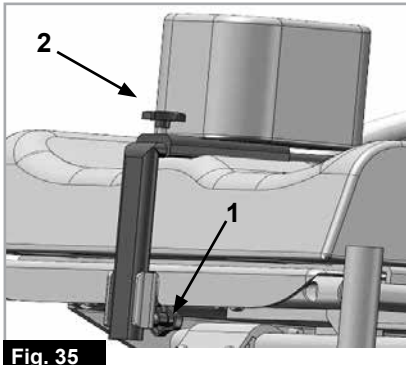

Fig. 35
By loosening the screw (1) the abduction wedge can be adjusted height-wise and by loosening the screws (2) it can be adjusted depth-wise or removed, (Fig.35).